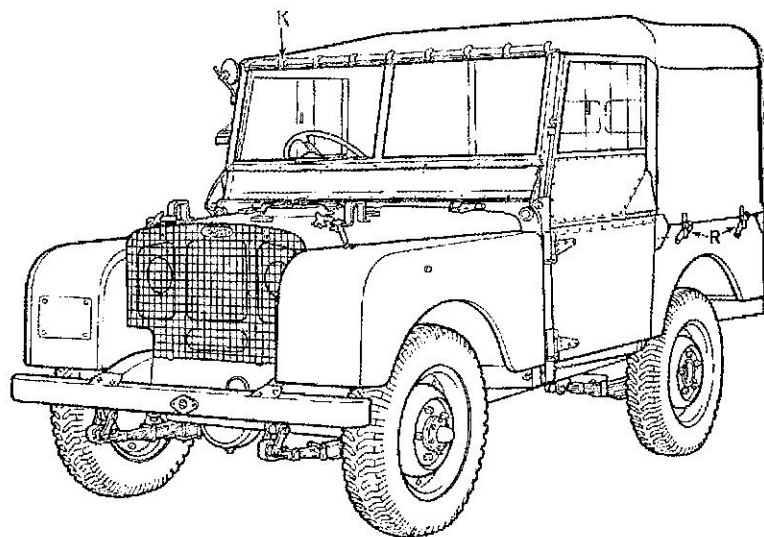
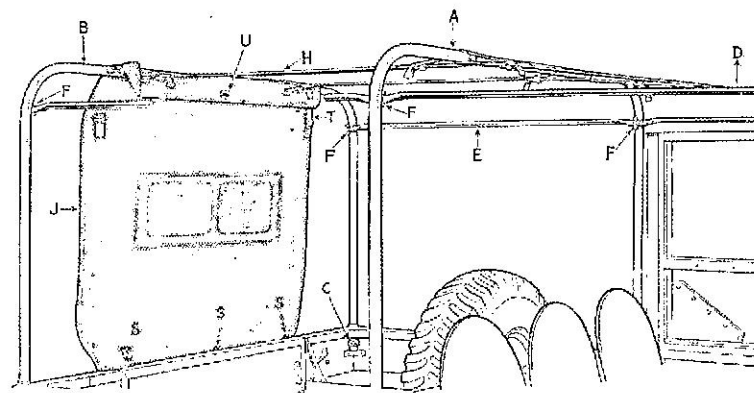
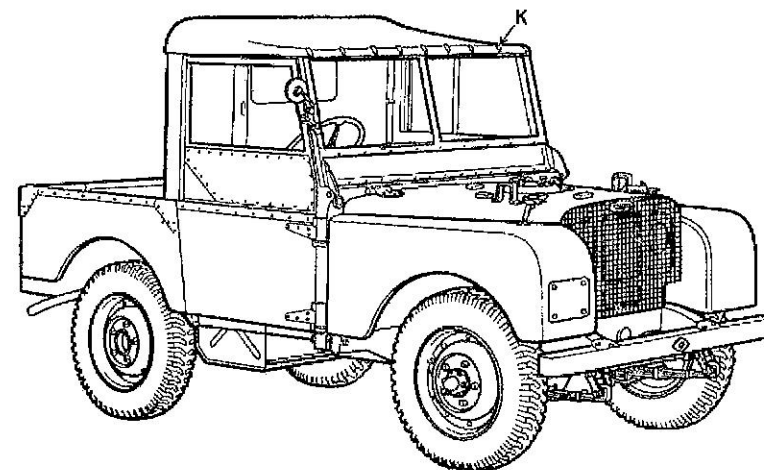

Fig. 39. 7-seater head.
Fig. 41. Rear hood straps and stays.
Fig. 44. 3-seater hood.
Two types of hood are available for the Land-Rover, known as the "3-seater" pattern (Fig. 44) which covers the front seat only and the "7-seater" which encloses the complete vehicle (Fig. 39) ; a detachable rear curtain (Fig. 41) is supplied with each type of hood. In conjunction with the doors and sidescreens, complete all-weather protection is thereby ensured.
Select the two hood-sticks; these are large U-shaped tubular members, the rear one having two flat staples on the top rail. Slacken off the thumbscrews (C) below the sockets inside the rear corners of the body, insert the rear hood-stick (B) in the sockets and tighten the screws. Fit the front hood-stick (A) in a similar manner. (Fig. 41).
straps; fold the edge of the rear curtain (J) over the top member of the rear hood-stick, pass the ends of the straps through the metal eyes in the curtain and buckle the straps taut. Fig. 41). The webbing loops on the rear curtain should be on the outside and the straps (T) at the top corners should not be fastened at this stage.
Slacken off the thumbscrews below the sockets inside the front corners of the body, insert the large U-shaped hood-stick (A) in the sockets and tighten the screws. (Fig. 41). Then fit the two stays (D) between the windscreen and the hood-stick, securing them at each end by means of the thumbscrews (F).
Attach the hooked ends of the two long webbing straps (G) to the loops on the windscreen top rail (open ends of the hooks downwards). Fold the edge of the rear curtain (J) over the top member of the hood-stick, pass the ends of the straps through the metal eyes in the curtain and buckle the straps taut (Fig. 41); the webbing loops on the rear curtain should be on the outside and the straps (T) at the top corners should not be fastened at this stage.
The mounting plate is secured to the bonnet panel with nine rivets and includes two clamps and captive bolts which clamp over the inner edge of the wheel. To ensure even weight distribution, four support blocks are supplied which should be bolted to the panel so that the weight is taken on the tyre wall; the two thick blocks should be used at the sides and the thin ones at front and rear. (Fig. 44).